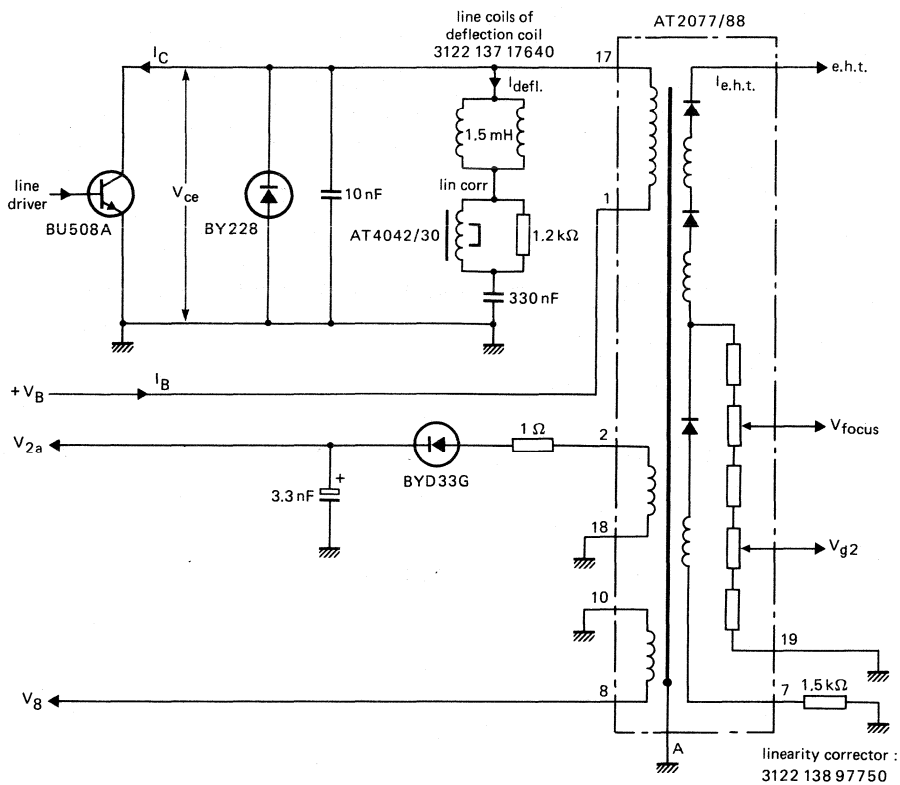

Fig. 7 Application circuit, 15.6 kHz.
**ELECTRICAL DATA** (see Fig. 7)